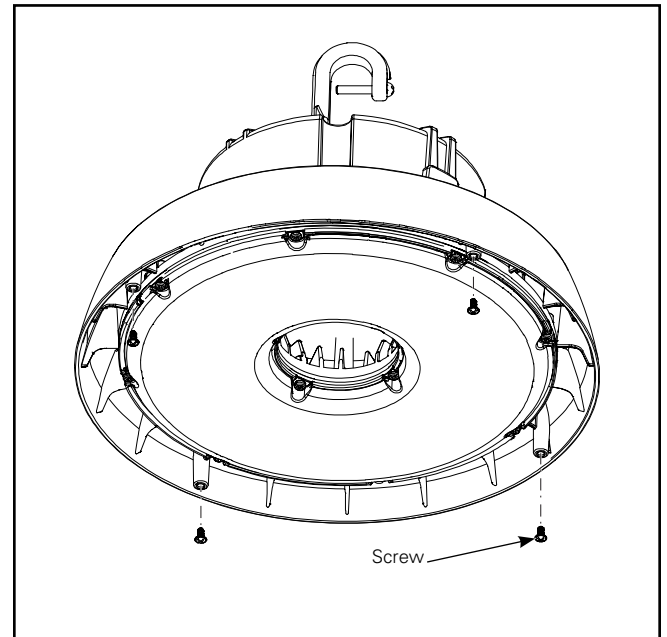

Figure 7.
1. Install all four screws into the mounting holes, leaving a 3mm gap from the fixture. (Figure 7.)